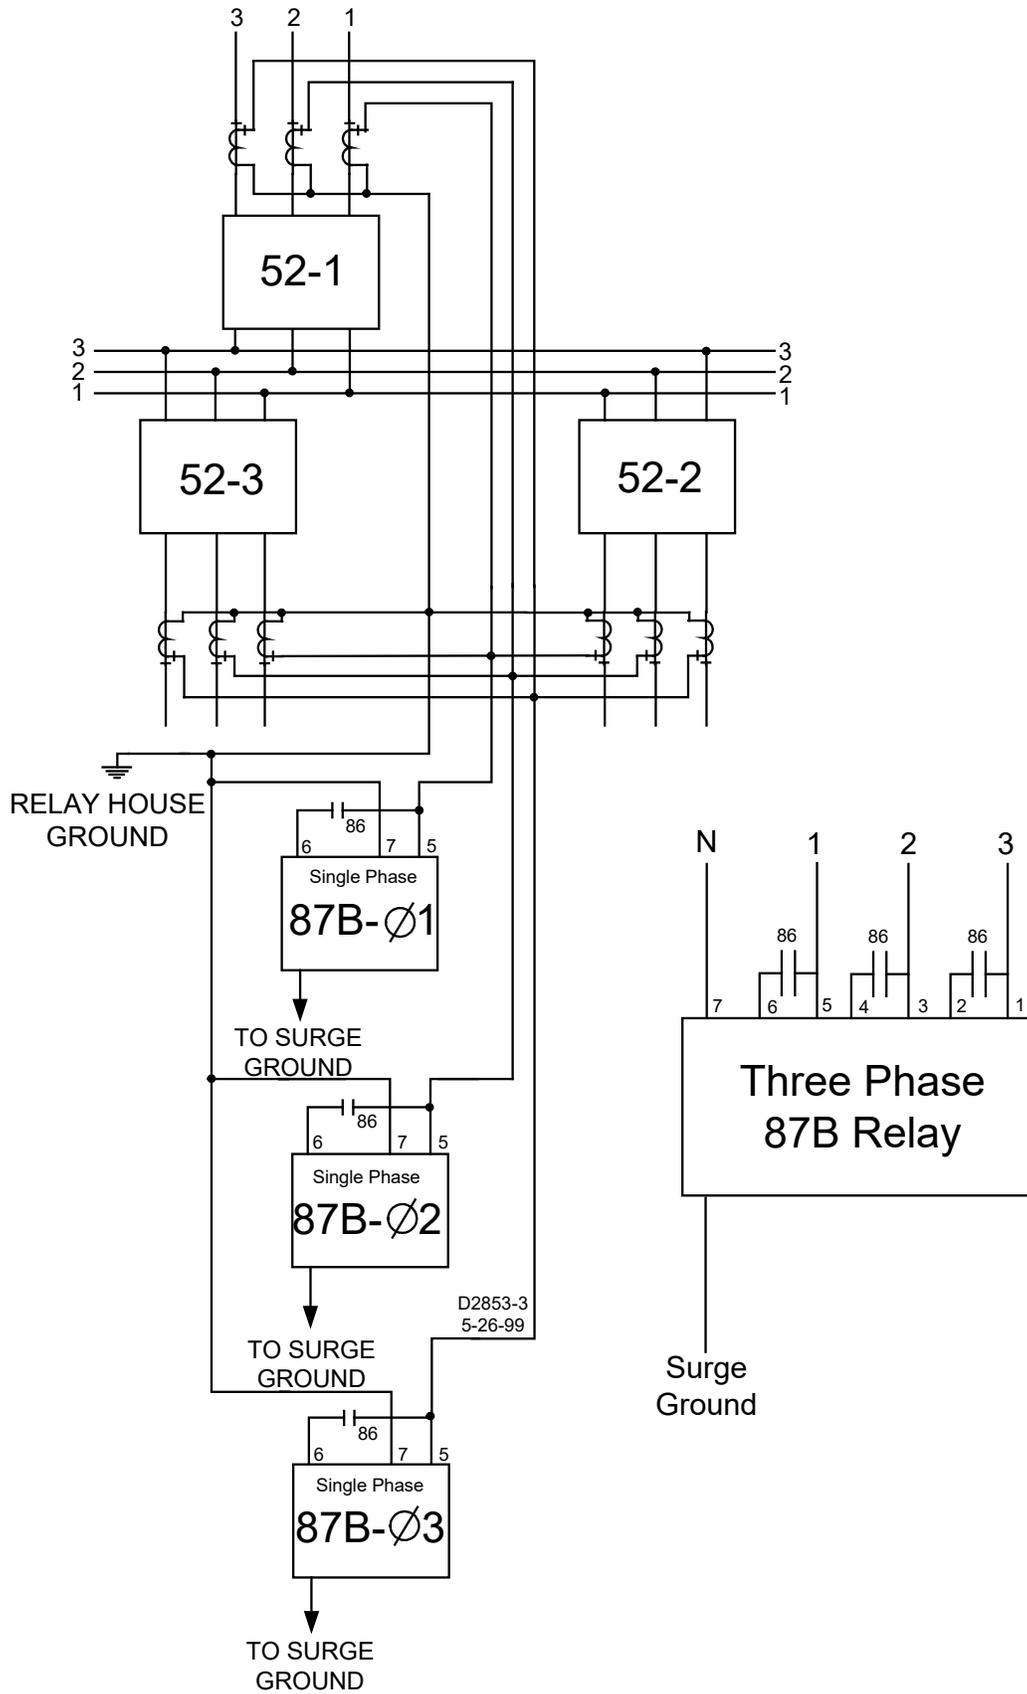

Figure 4-1. External AC Connections for Bus Protection
Three single-phase BE1-87B relays or one three-phase BE1-87B relay and an auxiliary lockout relay (86), provide a complete multi-phase and ground bus fault protection package. Typical external connections to the relays are shown in Figures 4-1 and 4-2. The connections are illustrated for a bus with three circuits, but the protection can easily be extended if more circuits are added to the bus. For additional circuits, it is only necessary to connect the CTs associated with the added circuits to the respective junction points and to connect the contacts of the lockout relay in the respective trip circuits. The relay voltage tap setting is based on the maximum voltage that can be developed across the differential junction point during an external fault. Calculation of the maximum voltage is easily made and methods for doing so are given in the paragraph under calculation of settings. A sample calculation for a bus differential scheme is also provided.
The BE1-87B high impedance, differential relay operates on the instantaneous value of CT secondary voltage to which the relay is connected. All the CTs in the differential circuit must have the same turns ratio. If all CTs have the same turns ratio, the voltage developed across the relay during normal system conditions is very small. The diagram in Figure 4-1 illustrates typical external ac connections to the relay for use in a bus differential scheme. As shown in the diagram, a typical differential connection is used consisting of the CT circuits from each bus device connected in wye and paralleled at one location (summing point) on a per-phase basis. Three single-phase BE1-87B relays or one three-phase relay provide complete protection of the bus. The relay will generate a trip output when the instantaneous voltage applied across 5 and 7, or 3 and 7, or 1 and 7 of the three-phase model (A, B, and C respectively), exceeds the voltage pickup setting ( $V_{DIFF}$ ) and the fault current is greater than the current sensitivity setting.